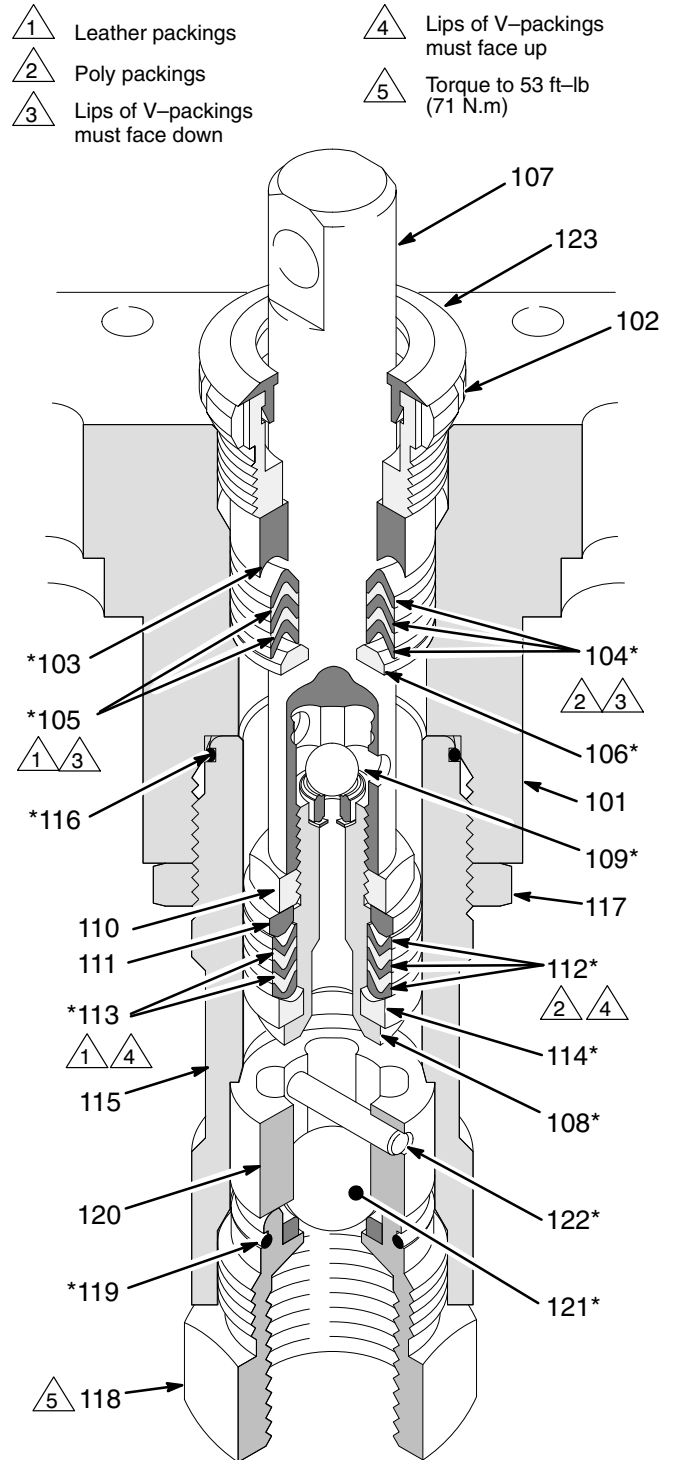

Fig. 23
- Stack these parts one at a time into the top of the manifold (101): the male gland (106*), alternately three plastic packings (104*) with two leather packings (105*), and then the female gland (103*). See Fig. 23.
- Install the packing nut (102) and plug (124), but leave loose for now. See Fig. 23.
14. Place the ball guide (120), stop pin (122) and ball (121*) in the cylinder (115). Screw the intake valve into the cylinder and torque to 53 ft-lb (71 N.m). This will also properly torque the cylinder into the manifold. See Fig. 23.